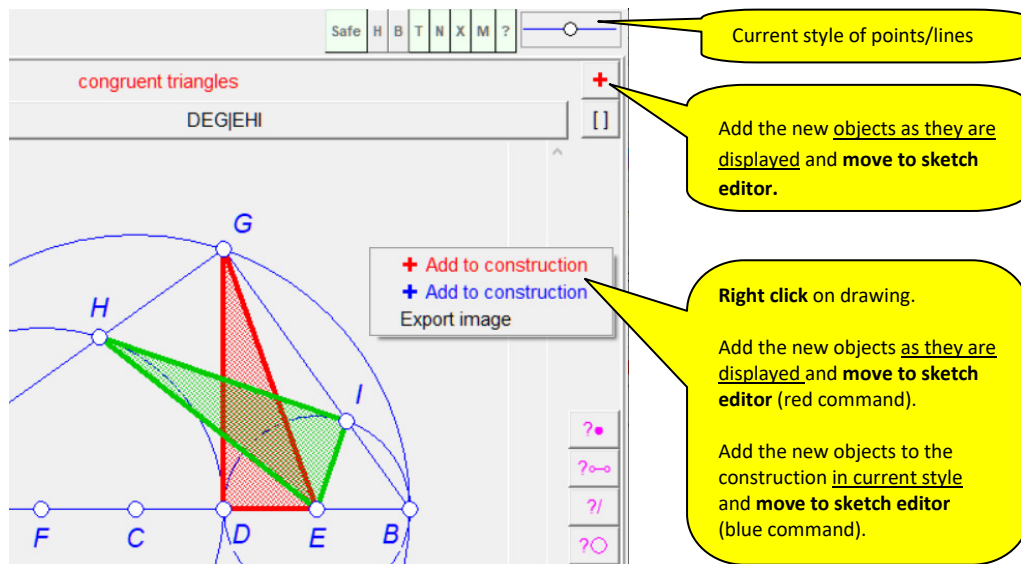

Figure 43
Sometimes we want to include objects on a visualised relation in the construction under consideration. For example, OK Geometry detects two congruent triangles (Figure 43). To include these two triangles in the construction, we can proceed in two ways:
- If we choose the **+** command, the added objects will be displayed as ordinary objects (Figure 43).